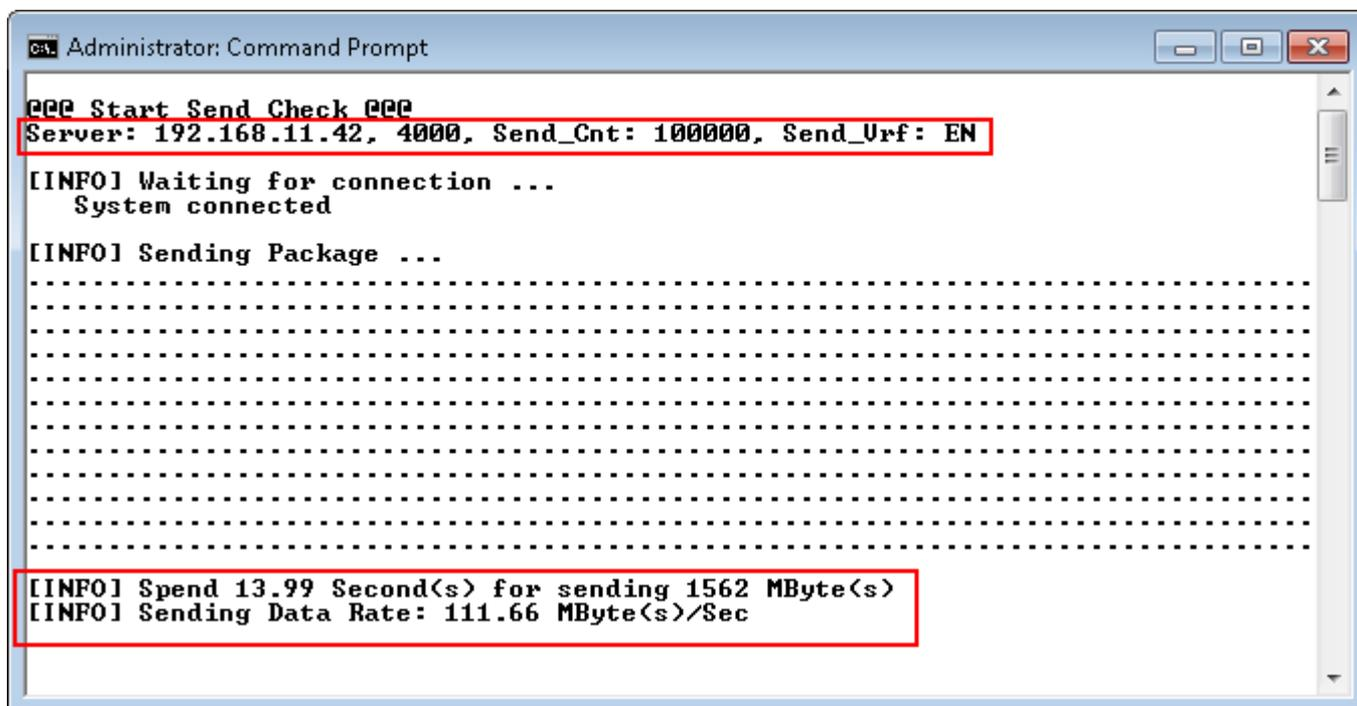

Figure 4-12 Receiving Demo on Verification mode
- Test application displays “...” during transferring packet and time usage with performance will be displayed when complete data transfer, as shown in Figure 4-12.